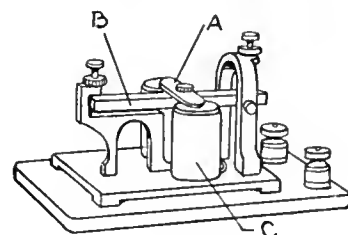

FIG. 439
3. The device shown in Figure 439 is called —